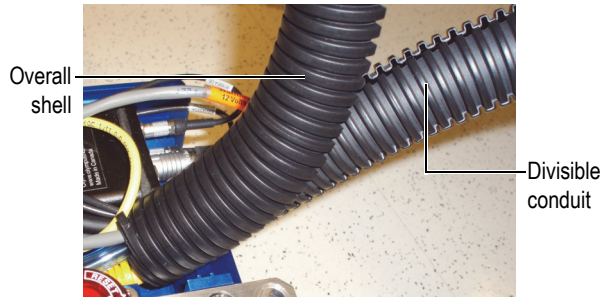

Figure 2-6 Umbilical –the overall shell over the divisible conduit
7. Install the overall shell over the divisible conduit (Figure 2-6 on page 39).